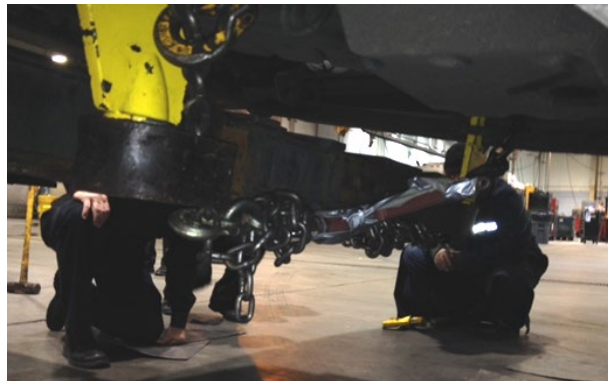

FIGURE 65
10. Install the choke chains. Tie the two choke chains together to secure the side members to the tow bar (Figure 64 and Figure 65). Take up any slack that may remain and maintain proper tension on chains.